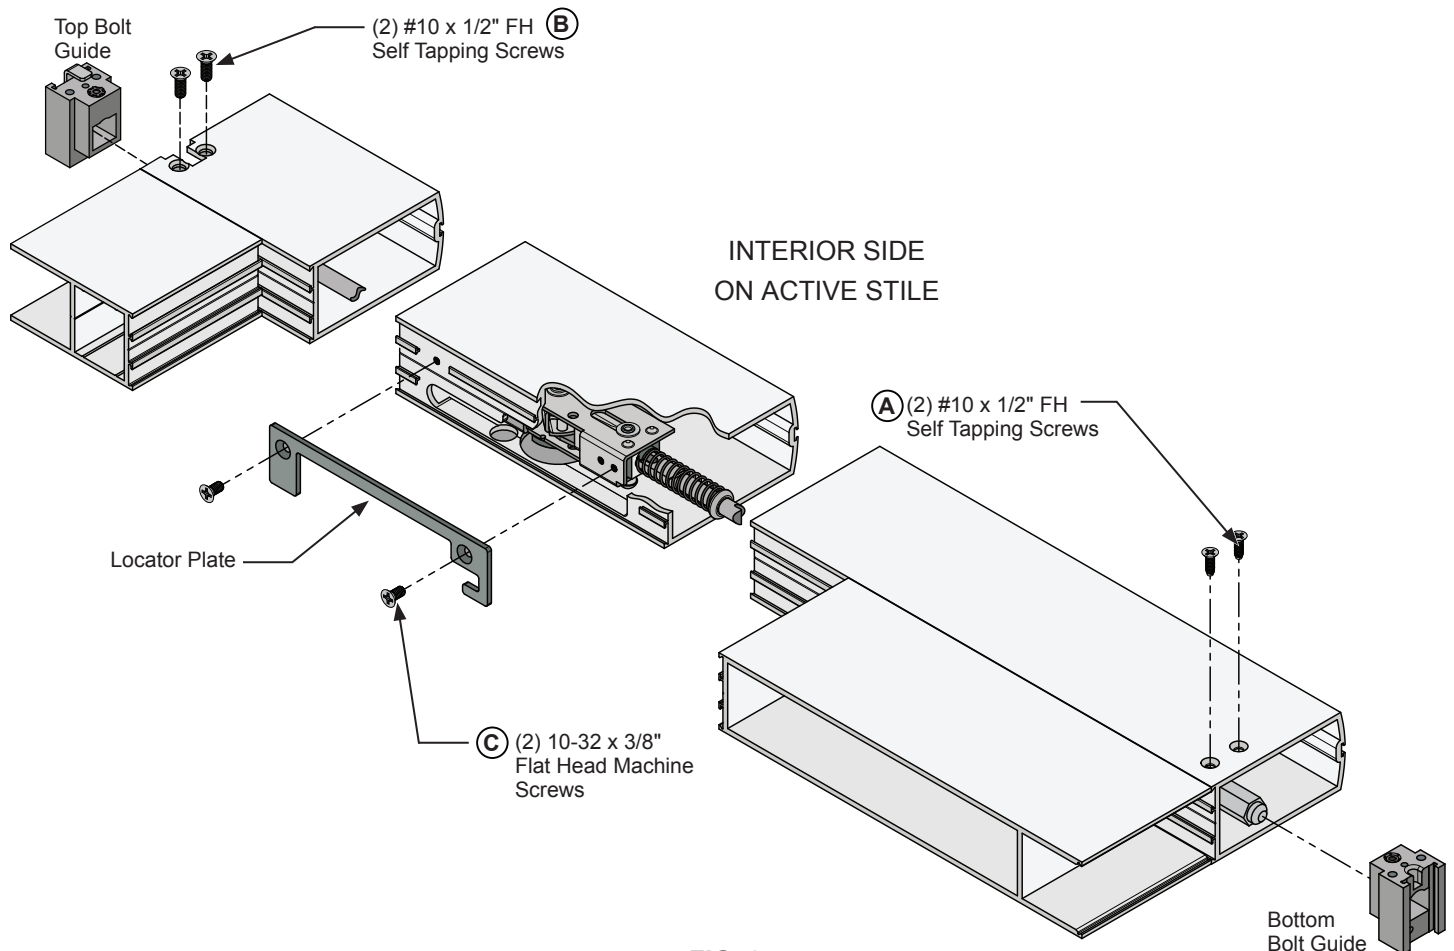

FIG. 9
2. Align the rod case assembly with the locator plate and fasten with (2) 10-32 x 3/8" **C** flat head machine screws. (**Fig. 9**)
4. Install the top bolt guide assembly using **B** (2) #10 x 1/2" FH self threading screws at the top of the active door stile. The (2) holes face the interior side.
5. Install the bottom bolt guide assembly using (2) **A** #10 x 1/2" Flat Head self threading screws at the bottom of the active door stile. The (2) holes face the interior side of stile.